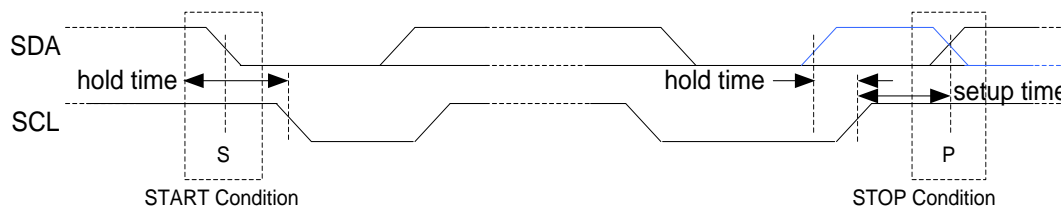

Figure 43. START and STOP (or repeated START, blue line) condition
An idle I²C bus state occurs when both SCL and SDA are not being driven by any master and are therefore in a logic HI state due to the pull up resistors. Every transaction begins with a START (S) signal and ends with a STOP (P) signal. A START condition is defined by a high to low transition on the SDA while SCL is high. A STOP condition is defined by a low to high transition on the SDA while SCL is high. START and STOP conditions are always generated by the master. This slave module also supports repeated START (Sr) condition which is same as START condition instead of STOP condition (the blue-color line shows repeated START in Figure 43).